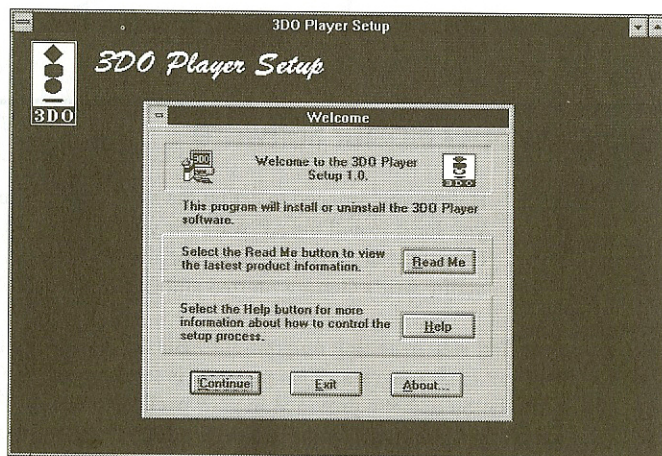

Figure 3-2: The 3DO Player Setup window.
3. In the Command Line text box, enter the path and name of your SETUP.EXE program. For example, if your installation diskette is in drive B, type B:\SETUP. The window in Figure 3-2 appears.